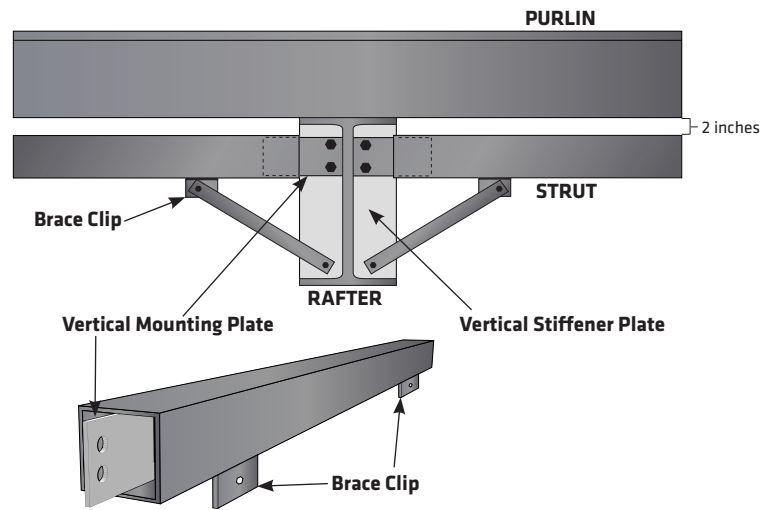

Figure 2
- 1.3 Vertical Attachment Plate - Welded or bolted to the ends of the struts. (see Figure 2)
- 1.4 Rafter flange bracing loads are to be removed from the purlins and applied to the struts. (see Figure 2)
2.2 Vertical Mounting Plate - Welded to the strut end and projecting from each end of the strut tube for mounting the strut end to a vertical stiffener plate welded between the upper and lower rafter flanges. (see Figure 2)
2.4 Offset Distance - Top plane of all struts shall be offset 2 inches below a line formed by the top plane of the rafter flange, unless otherwise specified. (see Figure 2)